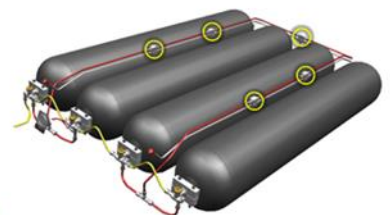

figure 3
**Roof Mounts** have a minimum of 4 with the option 1 or 2 by the hopper door figure 3.